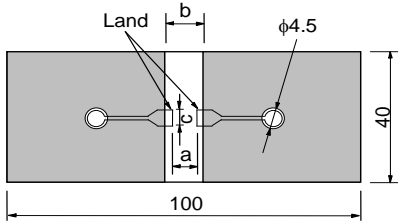

Fig.1 (in mm)
- Gray colored part of Fig.1: Solder resist
1.6 Chip in the tape is enclosed by top tape and bottom tape as shown in Fig.1.